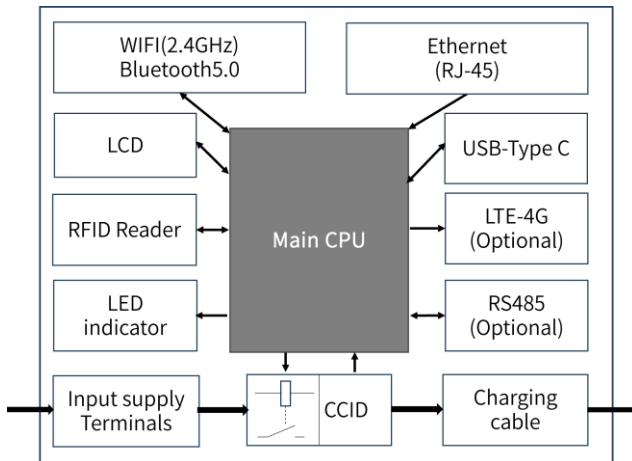

Fig. 4-2 Block diagram of GONEO
- D3U AC EV charging wallbox provides a 4.3-inch LCD screen version and a LED indicator version. The block diagram of D3U AC EV charger is shown as Fig. 4-2.